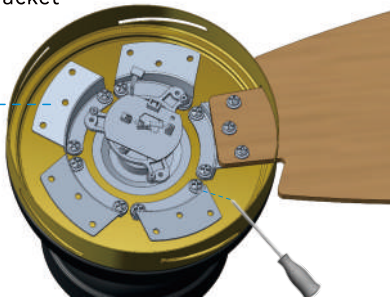

Fig 6.1
- 6.1 Locate 15 blade attachment screws and washers in the hardware pack. Slide the blade through the lamp cover and align the blade holes with the screw holes of the blade bracket and fasten the blades with the screws and washers as shown in Fig 6.1.